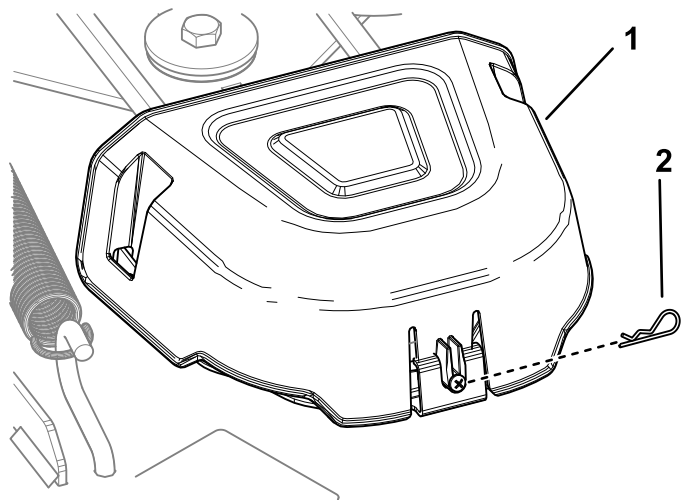

Figure 58
4. Remove the hairpin cotter and push in the tab on the cover to remove the pulley covers (Figure 58).